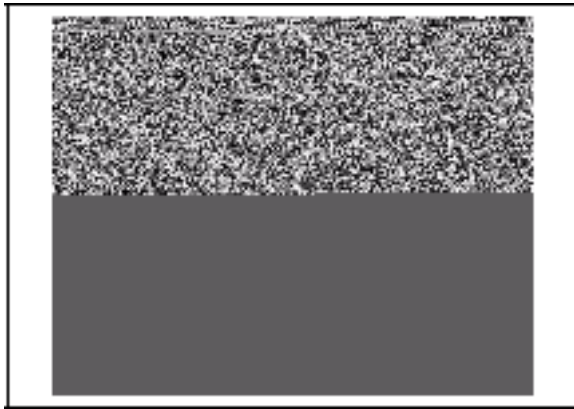

Fig. 138
Turn the choke plate as shown in Fig.138.
Pull the choke plate (F) from the choke shaft ([G] Fig. 138).